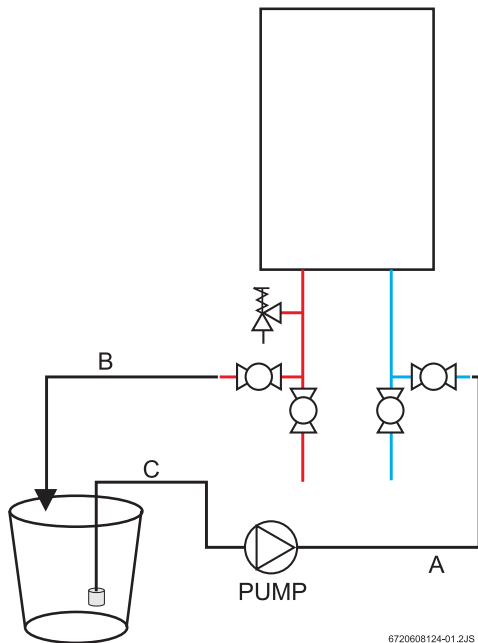

Fig. 64
5. Connect a line (A) from the outlet of the circulating pump (installer supplied) to the inlet water fitting on the water heater (see Fig. 64).
6. Using another line (B), connect to the water outlet fitting on the water heater. Route the other end of this line into a descaling reservoir.
7. Using a 3rd line (C) from the descaling reservoir, connect to the inlet side of circulating pump. Install a filter on the end of this line in the descaling reservoir.